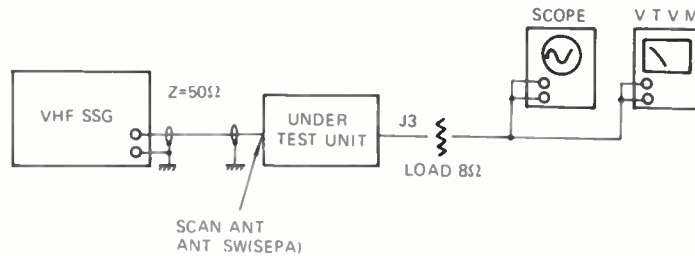

FIGURE 13
Step 1: Connect instruments as shown in Figure 13.
- Step 1: Connect instruments shown in Figure 13. Install crystals in sockets of VHF Hi (166 MHz) and VHF Mid (79 MHz).